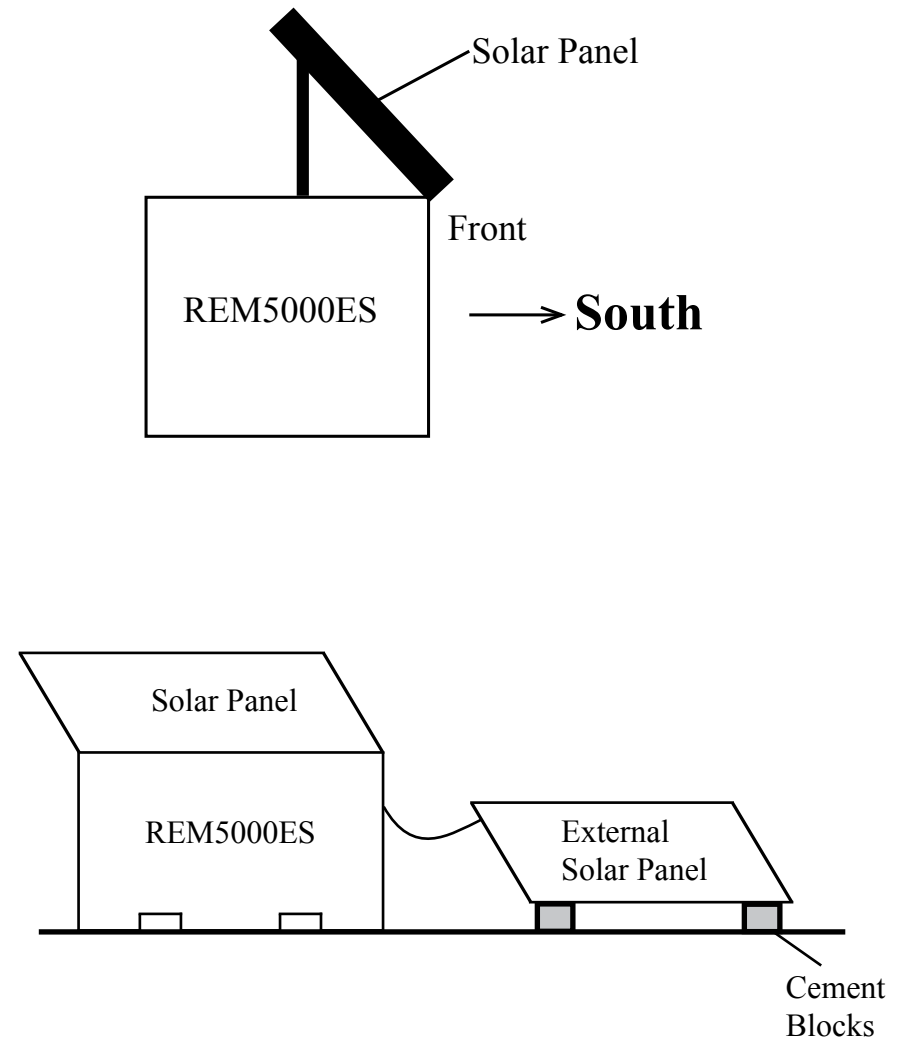

Figure 2
STEP 1. Place the REM5000ES near the well and have the front of the box facing due SOUTH (Figure 2). Reposition the solar panel to its upright position by unbolting the two side hinge arms at each end of the solar panel and reattaching these arms to the top of the box. Place the REM5000ES as close to the well as possible. Place the holding tank within 20 feet of control box. CAUTION: The controller inside the control box is NOT intrinsically safe. Do not operate the REM5000ES in a CLASS I area.
REM5000ES also has an external solar panel that comes with a ground mount (Figure 2). The external solar panel needs to be mounted to the ground. The ground mount needs to be anchored to the ground via concrete blocks, if in dirt, or lag bolts, in pavement.